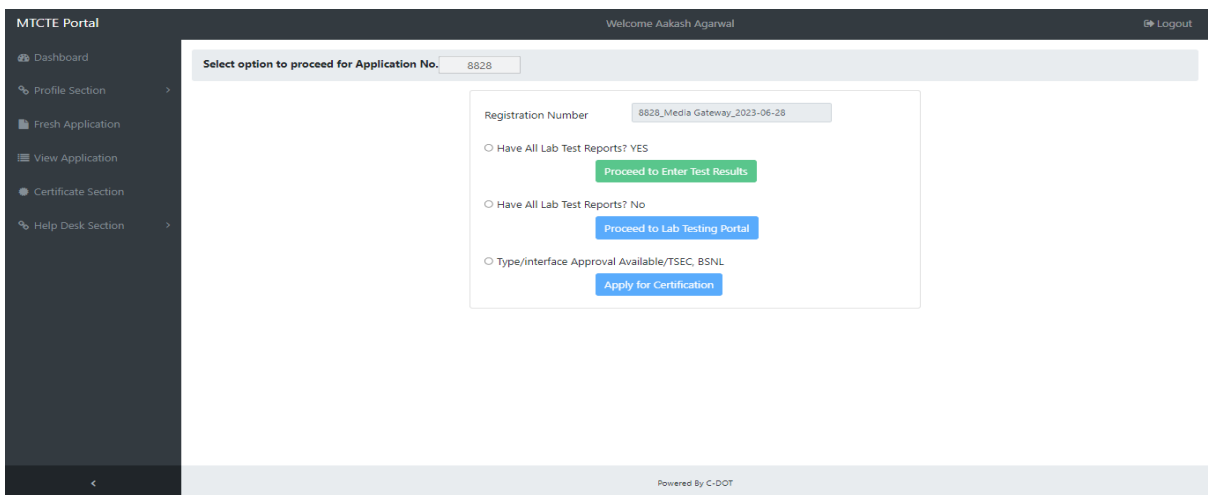

Fig. 45: Test reports availability
- i. On resuming the Application, Select the option **"Have All LAB Test Reports? Yes"** to proceed for the application (Fig. 45).